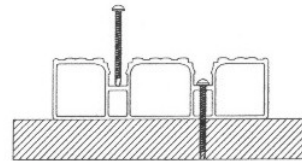

Figure 1
- 1.) Locate an end joist beneath plank. Allow ends of planks to overhang frame by at least 1-1/2" to allow installation of U-channel from. L-channel may be used for a flush finish, but U-channel is recommended in high traffic areas. In the screw channel, there is a centering groove to position screw (Figure 1). When attaching the first plank be certain of location on joist and that the plank is square.